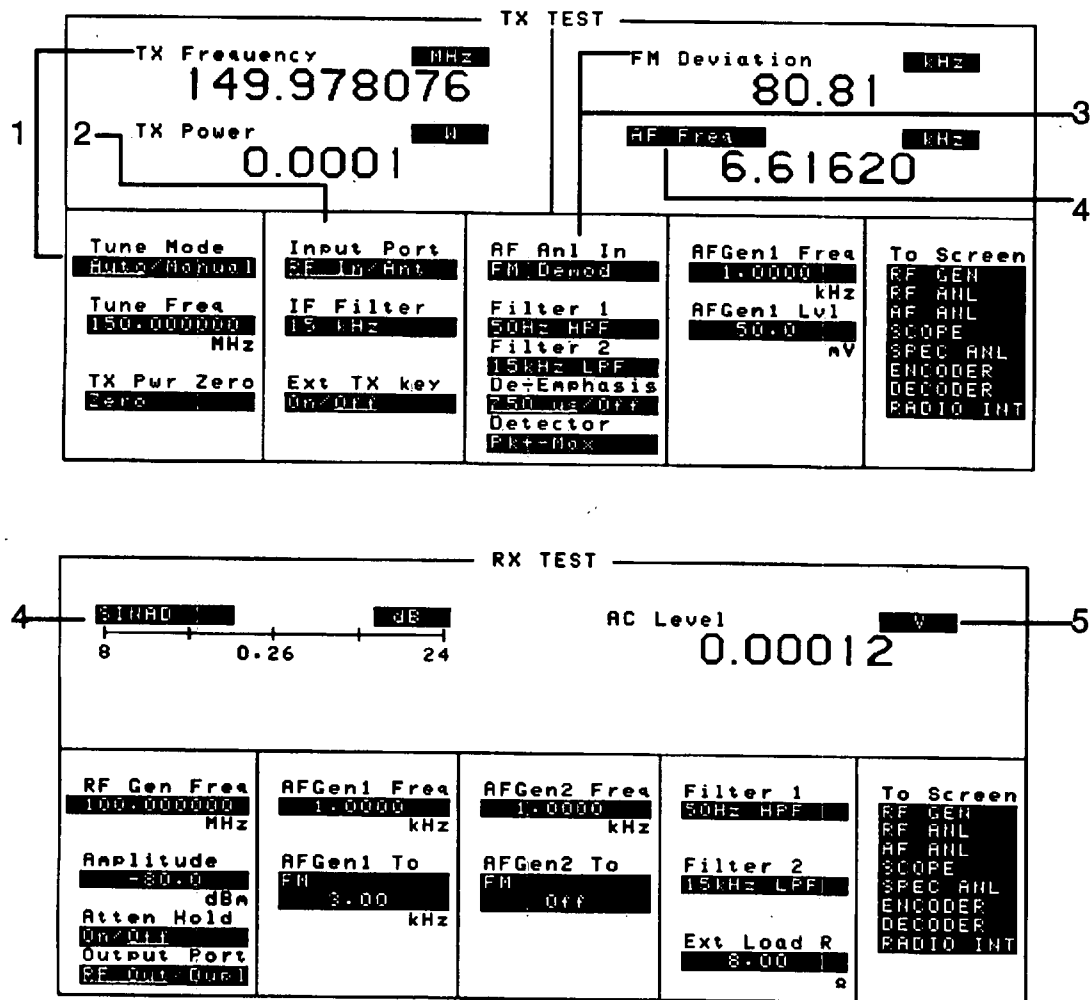

Figure 3-3. Where To Access Measurements
The AF An1 In setting determines the AF Analyzer's input and the measurement displayed in the top right corner of the measurement area. These measurements are available in the **TX TEST**, **DUPLEX TEST**, **RF GENERATOR**, **RF ANALYZER**, and **AF ANALYZER** screens. 1 (Refer to item (3) in figure 3-3.)
1 AC Level is also measured in the **RX TEST** screen, but always uses the AUDIO IN connector as the input. (Refer to item (5) in figure 3-3.)
Selecting the currently-displayed measurement causes the To Screen menu to be replaced by a list of measurement choices. Select the new choice to replace the old measurement. These measurements are available in the **RX TEST**, **TX TEST**, **DUPLEX TEST**, **RF GENERATOR**, **RF ANALYZER**, and **AF ANALYZER** screens. (Refer to item (4) in figure 3-3.)
AF Power is measured in the **RX TEST** screen by specifying the external load resistance, Ext Load R, and changing the unit of measure for the AC Level measurement to **W** (Watts), **mW**, or **dBm**. (The milliwatt (mW) unit is selected by pressing **SHIFT**, **ENTER**.) Refer to item (5) in figure 3-3.